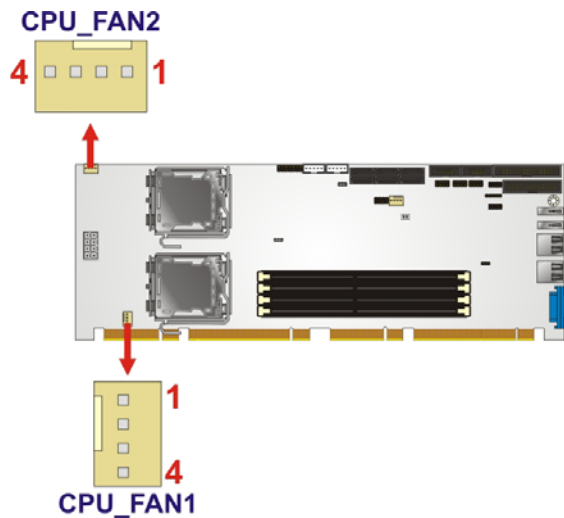

Figure 3-3: +12V Fan Connector Location
- CN Location:** See **Figure 3-3**